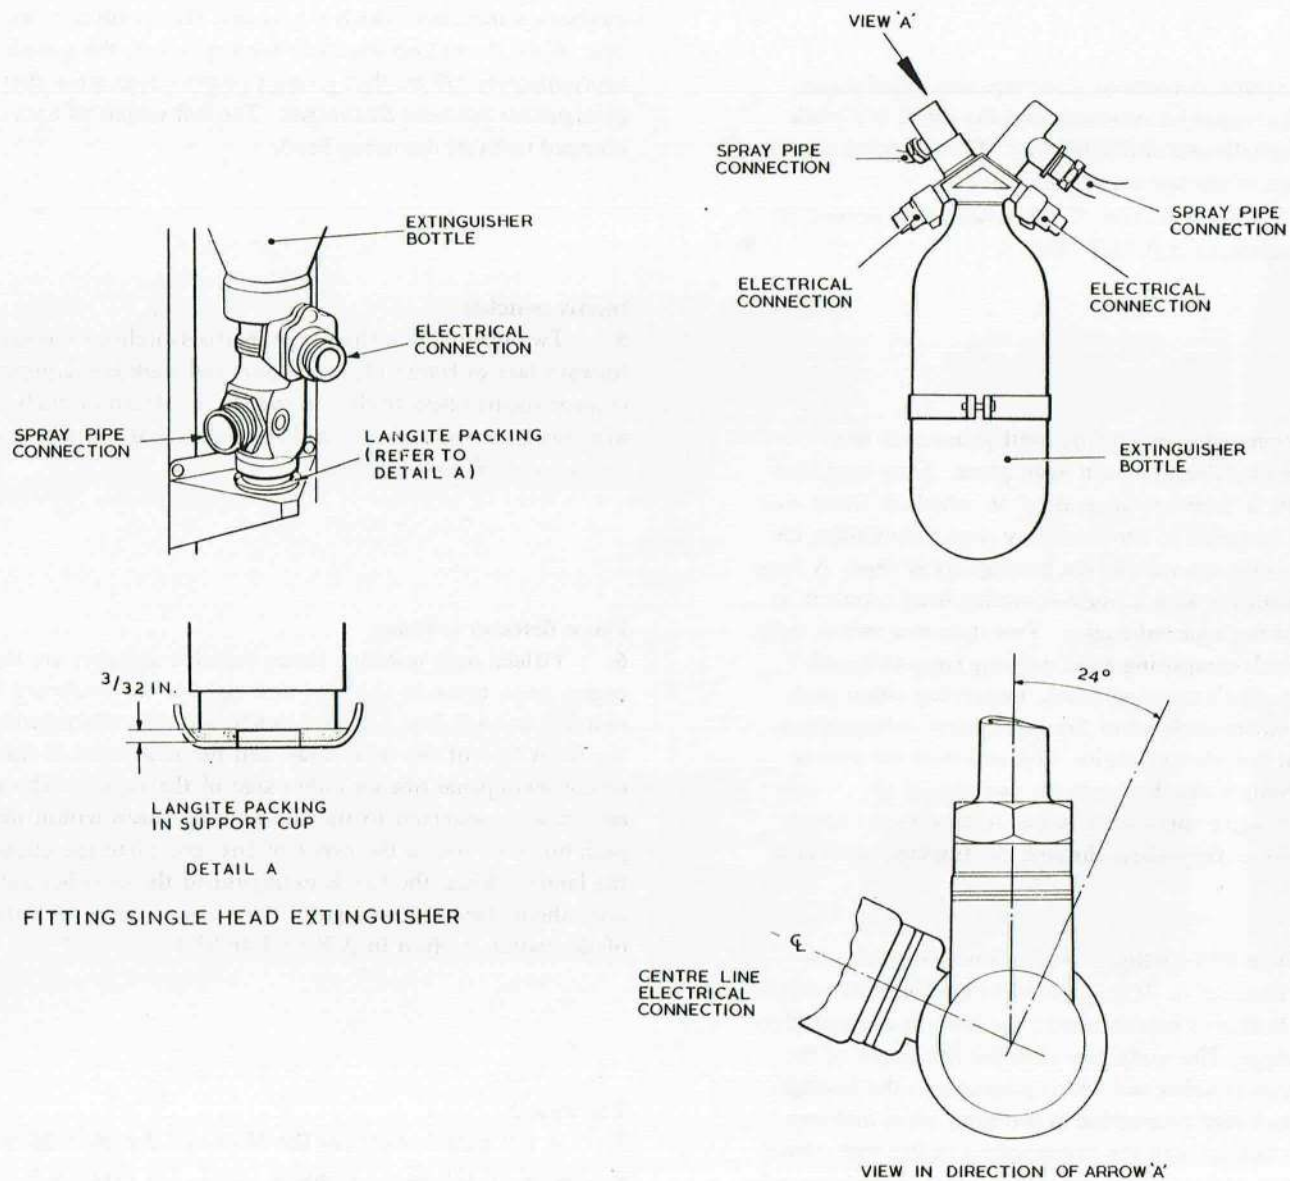

FIG.2.FITTING SINGLE HEAD EXTINGUISHER AND SETTING DUAL-HEAD JUNCTION BOX
14. When fitting a Type 12A or a Type 89A extinguisher, it is essential that the head of the junction box fits securely into the cup of the support disc of the attachment bracket. To ensure that the head of the junction box is correctly housed in the support cup, the thickness of the Langite packing in the box of the cup must be not more than 3/32 in. (*fig.2*), and the extinguisher must be held firmly in position whilst the attachment straps are being fitted and tightened. The following procedure should be adopted:—